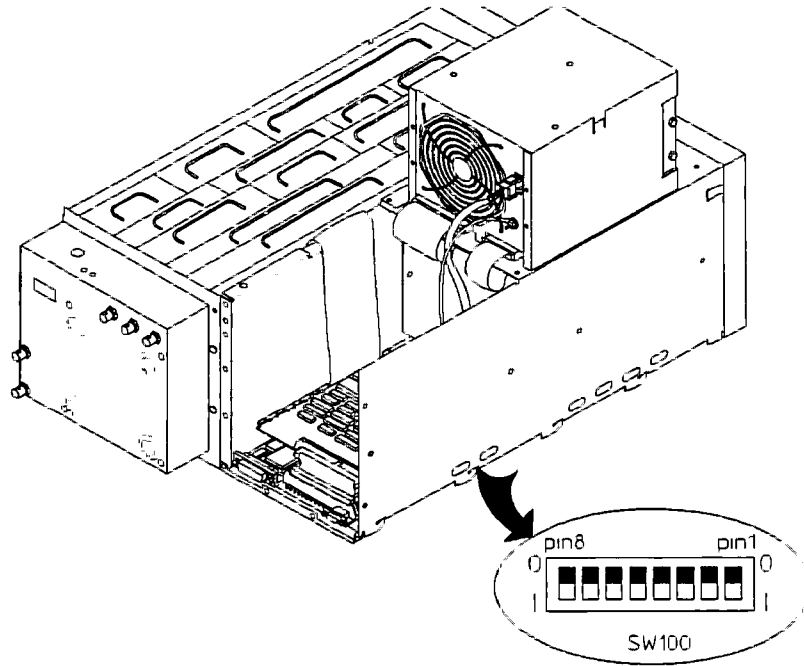

Figure 6-1. Normal Setting for A81 SW100
2. On the CPU assembly, check that all pins on SW100 are set to zero (see figure 6-1).